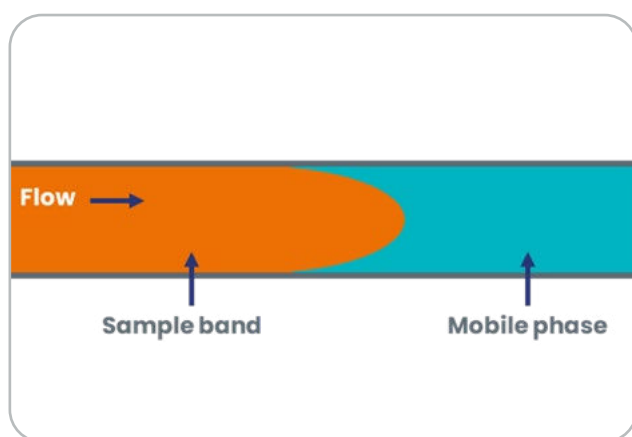

Figure 1a. Depiction of laminar flow, where liquid flows through a tube in a parabolic distribution, liquid on the edges flow slower than in the middle.
Dispersion is a critical factor in Liquid Chromatography (LC) that can have a negative effect on the accuracy and quality of analytical results. In LC, dispersion refers to the broadening of a sample band as it moves through the chromatographic system, having an impact on the results. Dispersion mainly happens due to a phenomenon known as laminar flow. When a liquid is moving down a cylindrical tube, such as HPLC tubing, friction causes the fluid at the borders of the tube to flow slower than in the middle, resulting in a parabolic distribution (Figure 1a). This causes the sample to reach the detector somewhat diluted, which results in a broader peak.